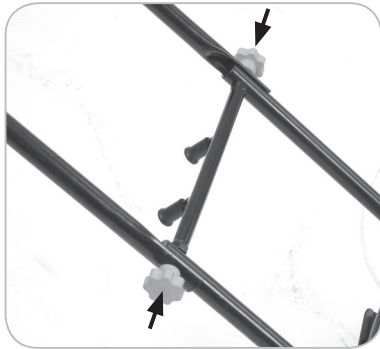

Fig. 2
- Insert the long thumb screws through the holes in the middle handle, through the holes in the lower handles and screw them into the captive nuts in the cross-bar/cable store. **(Fig. 2)**